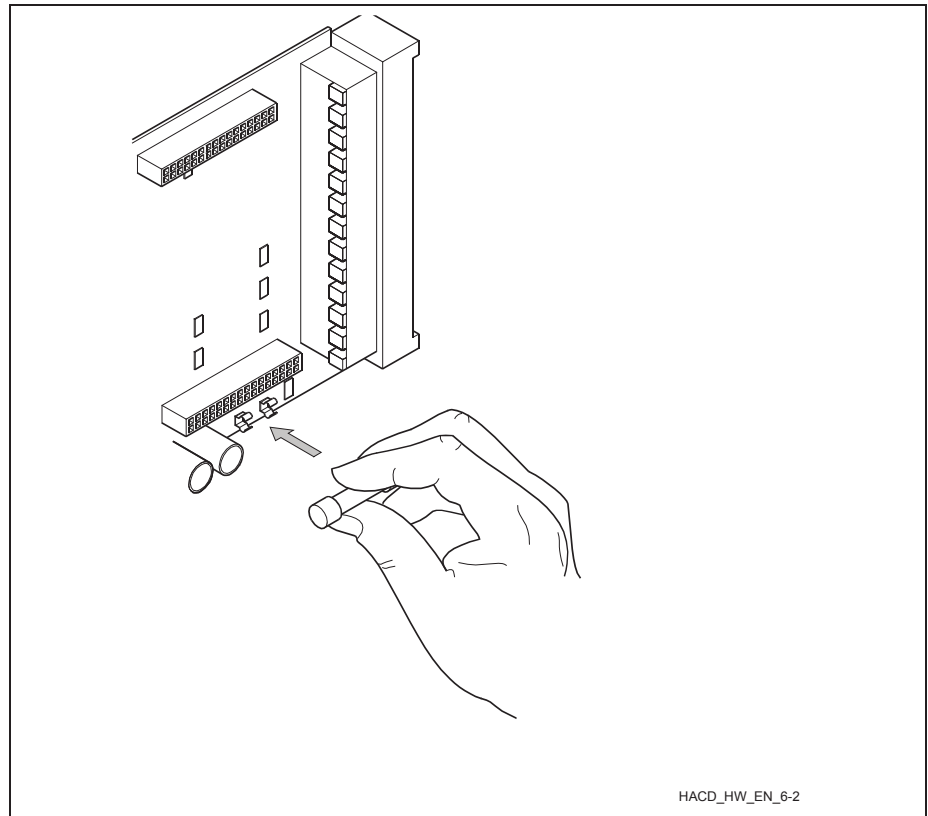

Fig. 19 Fuse on the HACD Controller Card
- Gently remove the fuse from the fuse holder (see Fig. 19).